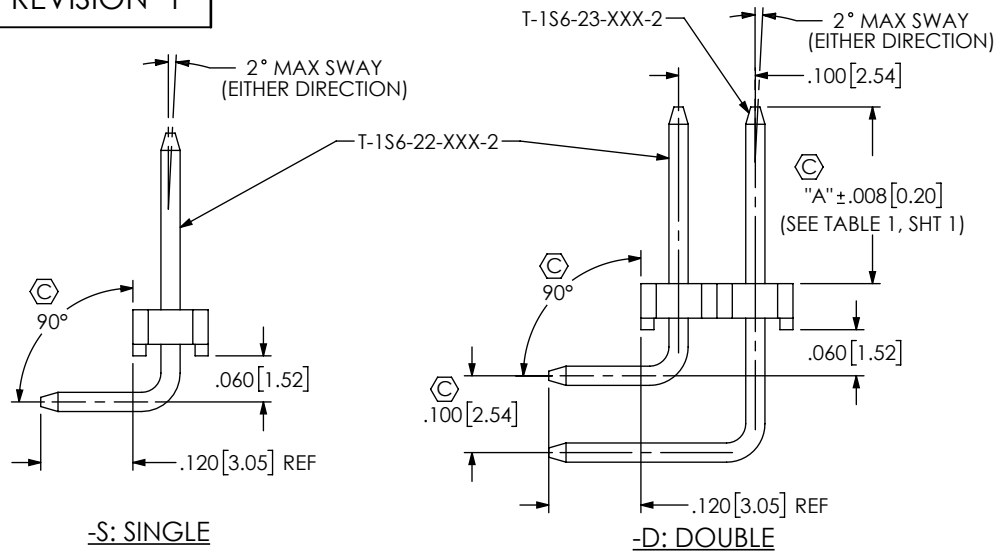

FIG 3
-01: RA (SEE FIG 3, SHT 2)
(SEE FIG 3, SHT 2)